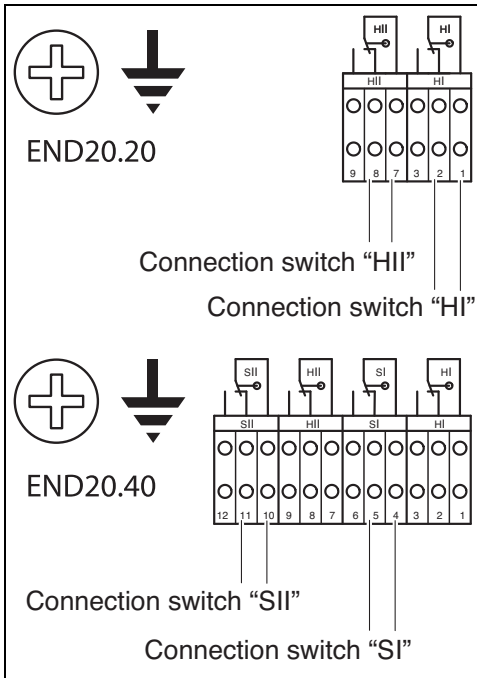

Fig. 36
- ▶ Connect the cable to the connection strip as follows (see also Fig. 36):